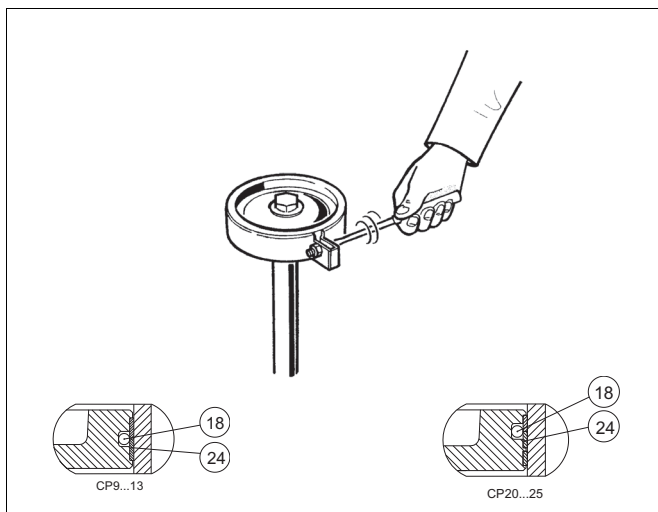

Fig. 6 Tightening the piston seals with a tie ring
- Place the O-ring (18) under the piston seals.
- Locate the seals (24) around the piston so that the ends of the strips come on opposite sides. Tighten the strips with the tie ring as shown in Figure 6. The strips marked with an asterisk (*) may be cut 1.5-3 mm shorter to facilitate assembly.